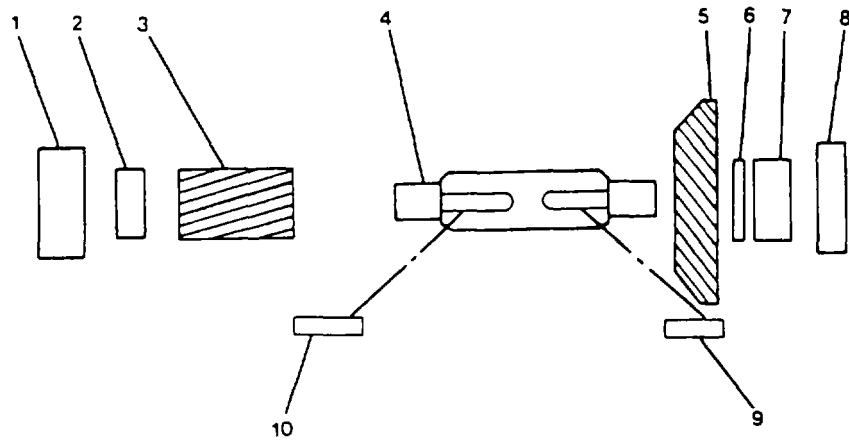

FIGURE 4-35. Intermediate Speed Pinion.
- (1) Remove intermediate speed (I.S.) bearing (1) and I.S. gear (2) from L.S. pinion shaft (3).
- (2) Remove I.S. bearing (5) and L.S. pinion (4) from shaft.
- (3) Retain machine keys (6,7).
c. Intermediate Speed Pinion. (FIGURE 4-35)CAUTION
- (1) Install oil slinger (4) and snap ring (5) on shaft (3) from bolt end of shaft.
- (2) Install machine key (10).
- (3) Install bearing (6) and high speed bevel gear (7).
- (4) Install flat washer (8) and machine bolt (9), and secure bearing and gear assembly to shaft (3).
- (5) Install bearing assembly (2) and high speed bearing cartridge (1) on shaft (3).
b. Intermediate Speed Pinion. (FIGURE 4-35)